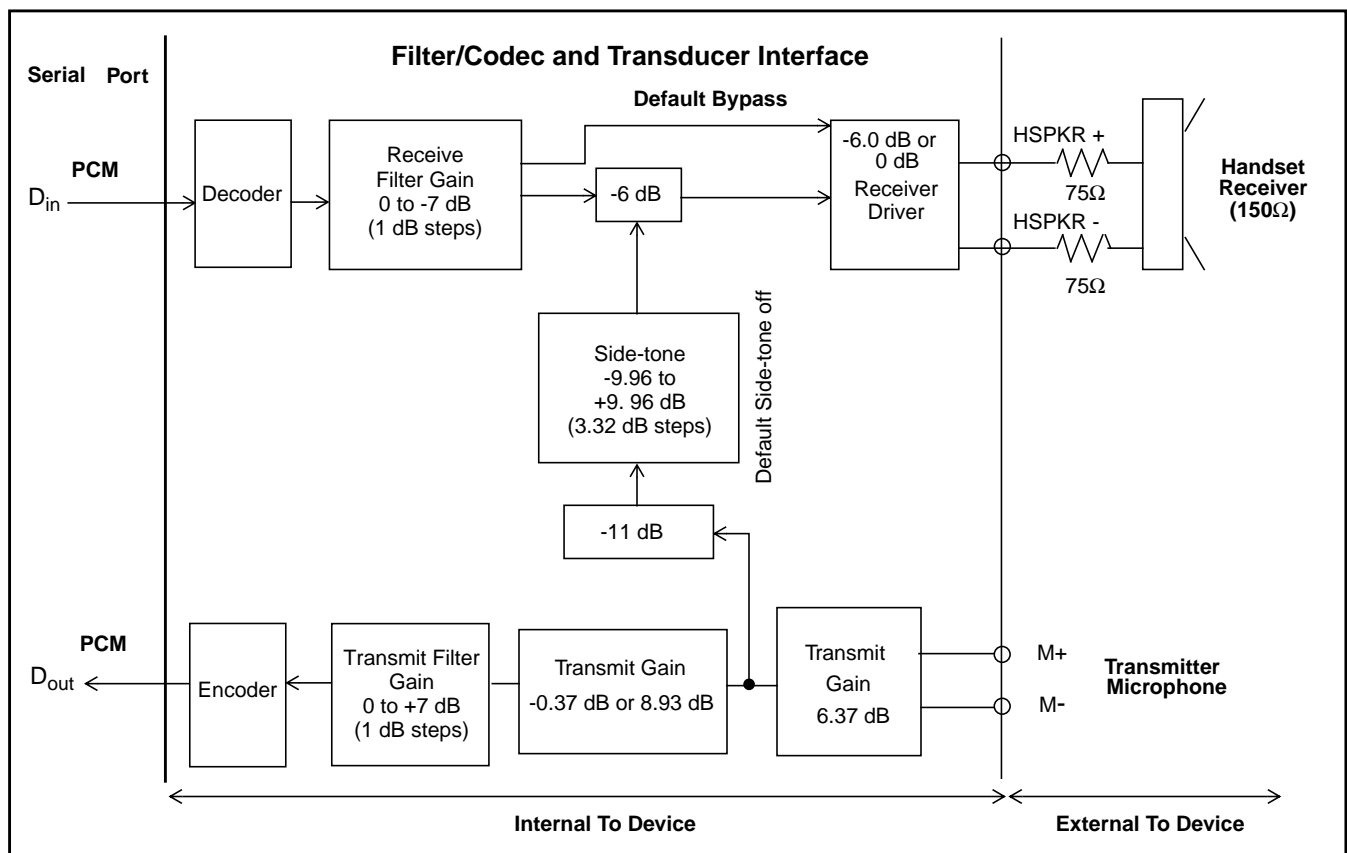

Figure 3 - Audio Gain Partitioning
The Filter/Codec block also implements transmit and receive audio path gains in the analog domain. A programmable gain, voice side-tone path is also included to provide proportional transmit speech feedback to the handset receiver. This side tone path feature is disabled by default. Figure 3 depicts the nominal half-channel and side-tone gains for the MT91L60/61.
- The handset speaker outputs (receiver), pins HSPKR+/HSPKR-. This internally compensated fully differential output driver is capable of driving the load shown in Figure 3. The nominal receive path gain may be adjusted to either 0 dB, -6 dB or -12 dB. Control of this gain is provided by the RxINC control bit (Gain Control register 1, address 00h). This gain adjustment is in addition to the programmable gain provided by the receive filter.